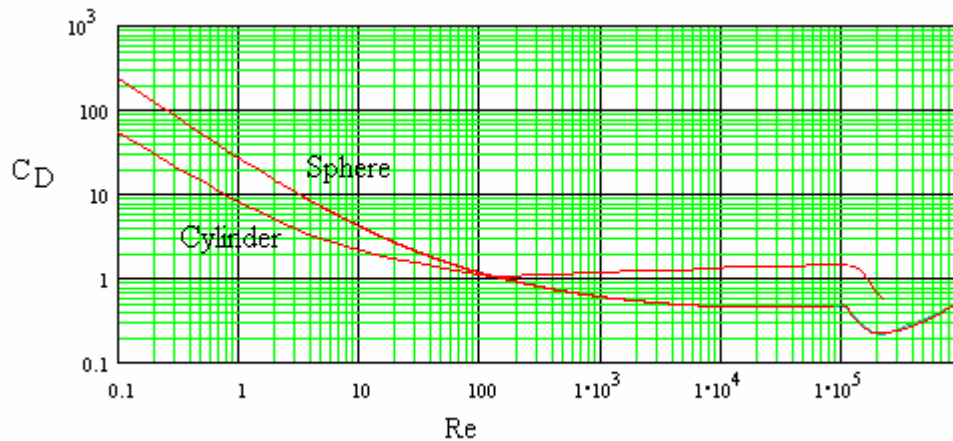

Fig.1.12
Fig. 1.12 shows an approximate relationship between C_D and Re for a cylinder and a sphere.
2. Using the graph (fig.1.12) to find the drag coefficient, determine the drag force per metre length acting on an overhead power line 30 mm diameter when the wind blows at 8 m/s. The density of air may be taken as 1.25 kg/m^3 and the kinematic viscosity as $1.5 \times 10^{-5} \text{ m}^2/\text{s}$. (1.8 N).
Fig. 1.12 shows this approximate relationship between C_D and Re .